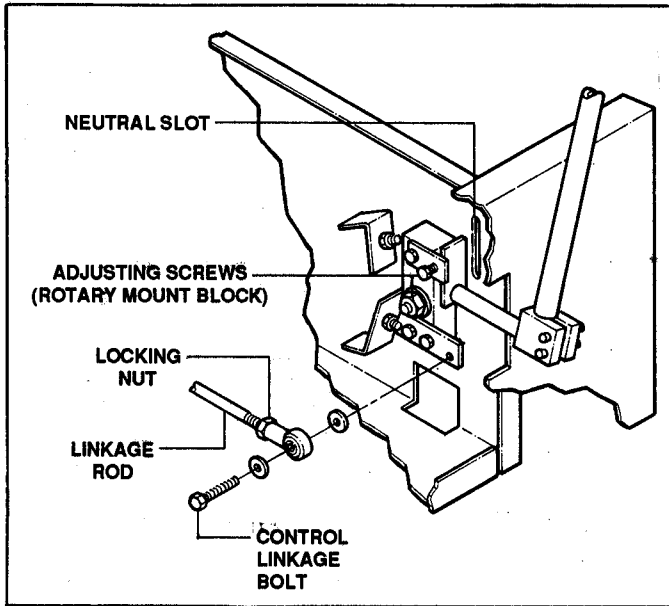

FIGURE 4.9
- (a) Remove the control linkage bolt from the rotary mount. See Figure 4.9.